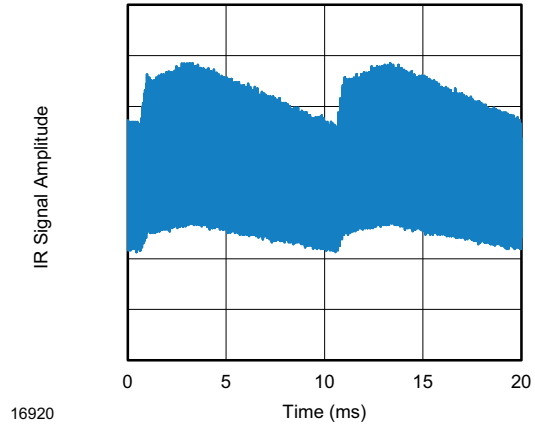
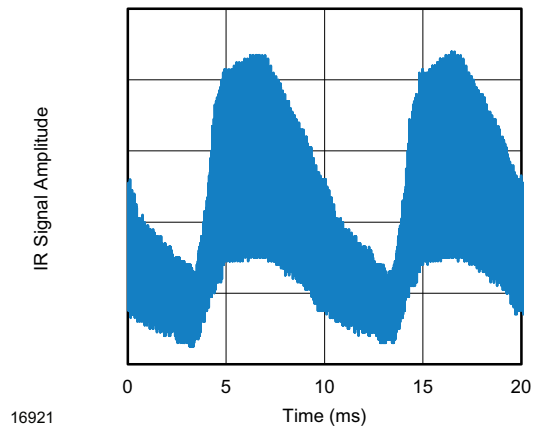

Fig. 13 - IR Disturbance from Fluorescent Lamp With Low Modulation
Fig. 14 - IR Disturbance from Fluorescent Lamp With High Modulation
- Strongly or weakly modulated patterns from fluorescent lamps with electronic ballasts (see Fig. 13 or Fig. 14)
Suppression of interference from fluorescent lamps	Fig. 13 and Fig. 14